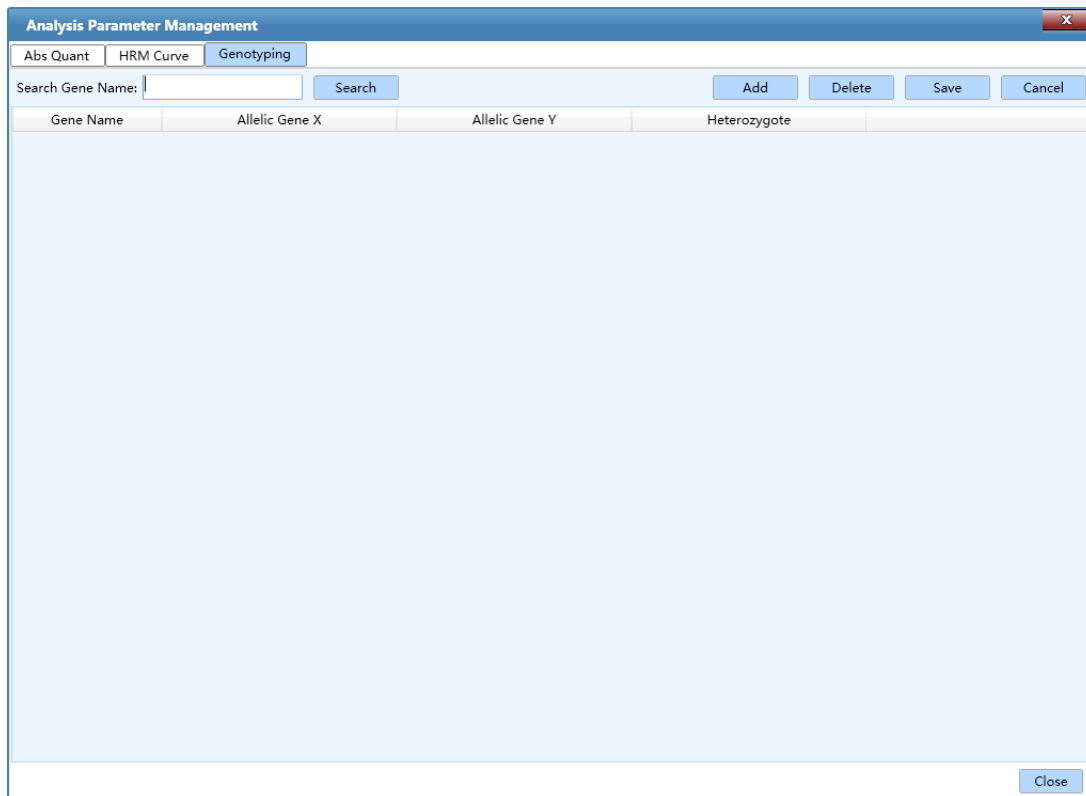

Figure D-3.10c. Parameter Management Interface – Genotyping Curve Tab
- **Genotyping** tab: User can manage the analysis parameters of specific or multiple genes for genotyping experimental results analysis on the **Genotyping** tab, as shown in figure D-3.10c.